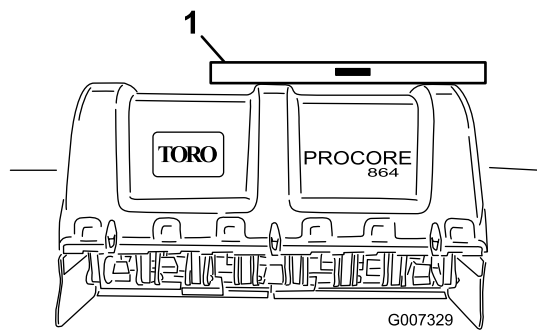

Figure 12
2. Place level on top of aerator frame to check for level side-to-side (Figure 12).